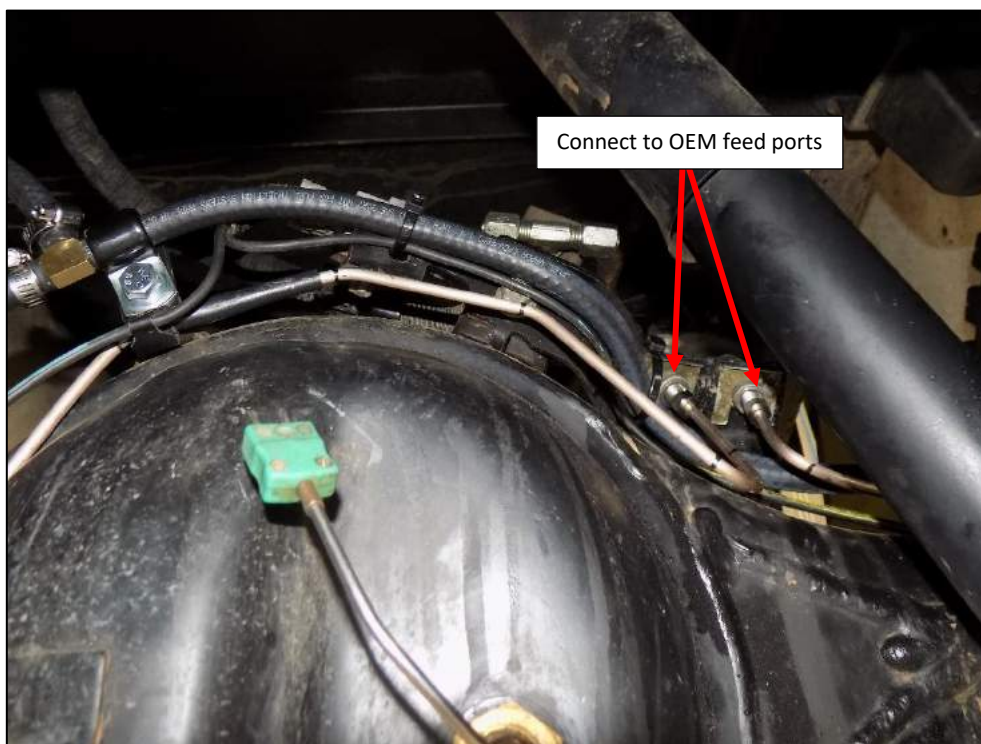
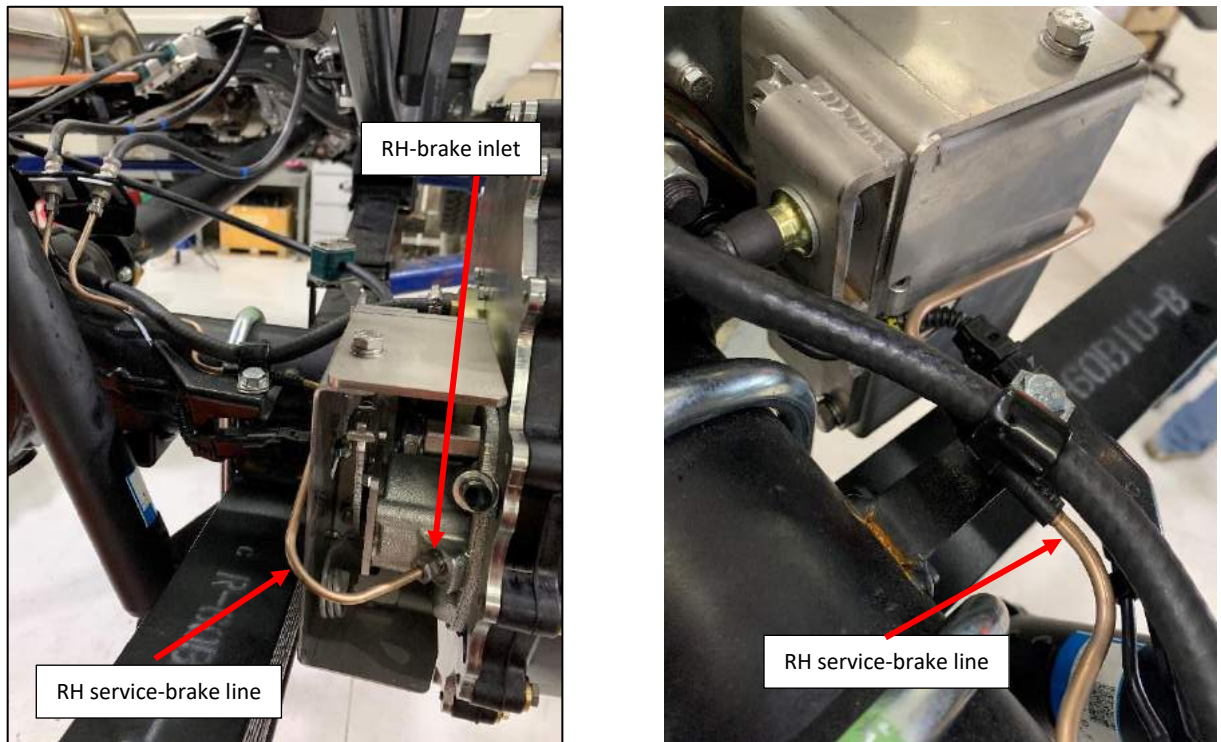

Figure 45
Figure 47
35. The service-brake lines attach to the OEM feed pipes (Figure 45). Fig 47 shows vehicles equipped with stability control. Vehicles without stability control fitted use a tee-fitting style.
37. Connect the RH service-brake line to the RH-brake feed port (Figure 47).